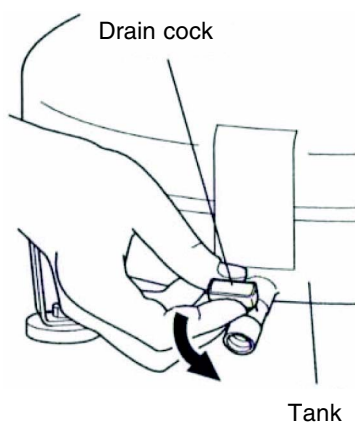

Fig.4
- (2) Unplug the plug from power source.
- (3) Open the drain cock located at the lower part of the tank (Fig. 4).
Drain tank daily or after 4 hours of use. Open drain tank and tilt compressor to empty accumulated water (Refer to Fig. 4).